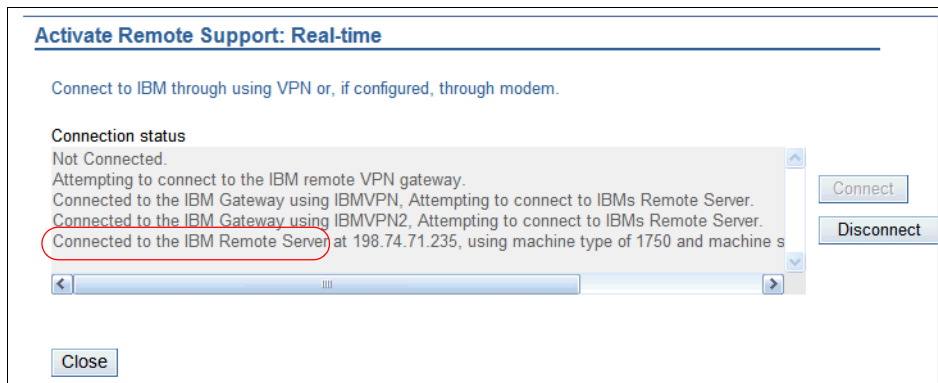

Figure 22-6 Successful remote connection
- After you click **Connect**, you will see messages appear in the Connection status window. When you see a message saying the SMC is connected to the IBM Remote Server, then you know the VPN connection is working. An example is shown in Figure 22-6.
7. Once the phone numbers have been populated, click **Test** next to Phone#1 to initiate a test dial out. A successful completion message displays as shown in Figure 22-6 on page 434. If the dial out fails, you might need to check that the prefix you defined is correct (such as whether to dial zero to get an outside line) and that the modem is correctly set up.